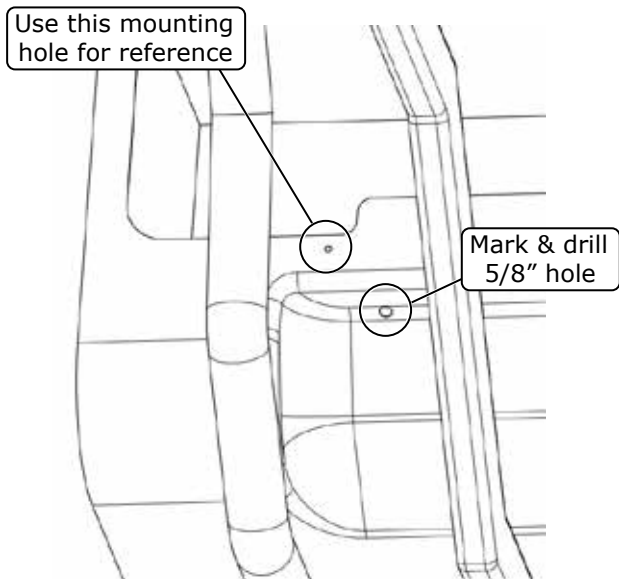

Figure 1
3. Drill $5/8$ " hole in radius of footwell between the stock exhaust location and frame, approximately $2\ 1/2$ " from the mounting hole as shown in Figure 1, below.